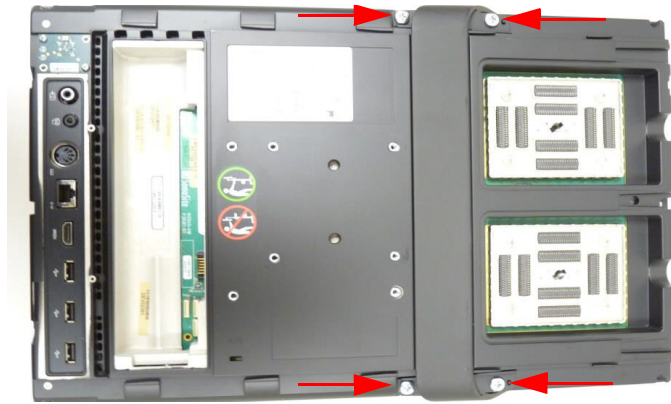

Figure 6.3 Handle Removal
- 6 Remove four screws holding the handle in place as shown in Figure 6.3.
- 6 Slide the handle over the bottom portion of the assembly as shown in Figure 6.3 and fasten at 15.0 in-lbs with four screws.